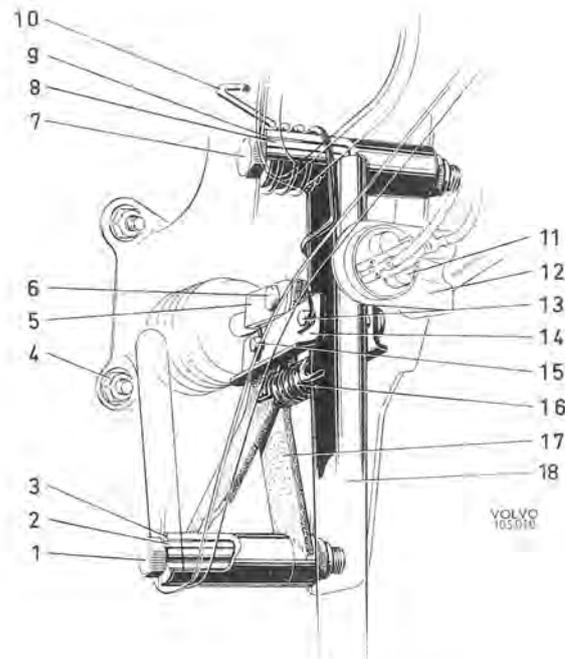

Fig. 5-67. Brake pedal suspension components
Check the distance from the brass hub on the brake light switch to the brake pedal, see Fig. 5-66, when the brake pedal is released. The distance should be 4 ± 2 mm (0.16—0.08"). To adjust, slacken the screw for the bracket (12, Fig. 5-67). Remember to tighten the screw after adjustment.
2. Remove the bracket (12, Fig. 5-67) for the brake light switch (11). Remove the split pin and bolt (13). Unhook the return spring (10) and the spring (16). Unscrew the nut for the bolt (7) and pull out the bolt.
3. Lift out the pedal (18).
4. Fit the new pedal bushes (9) and lubricate the bearing sleeves (8) with a light layer of ball-
2. Remove the bracket (12, Fig. 5-67) for the brake light switch. Remove the split pins and bolts (6-13). Unhook the return spring (10) and the spring (16). Unscrew the nuts for the bolts (1-7) and remove the screws.
3. Lift out the pedal (18) and the link arm (17).
3. Remove the bracket (12, Fig. 5-67) for the brake light switch.
4. Fit the bracket (12, Fig. 5-67), and adjust the brake light switch (11), see under "Adjusting brake light switch" on page 5 : 26.
2. Disconnect the link arm (16, Fig. 5-67) from the brake pedal. Remove the bracket with clutch pedal stop from the cowl.
1. Check that the rubber cover (35, Fig. 5-67) is pressed down properly at the protective washer for the cleaner. Secure the fork to the link arm. Push in the power cylinder so that the attaching bolts come into position.